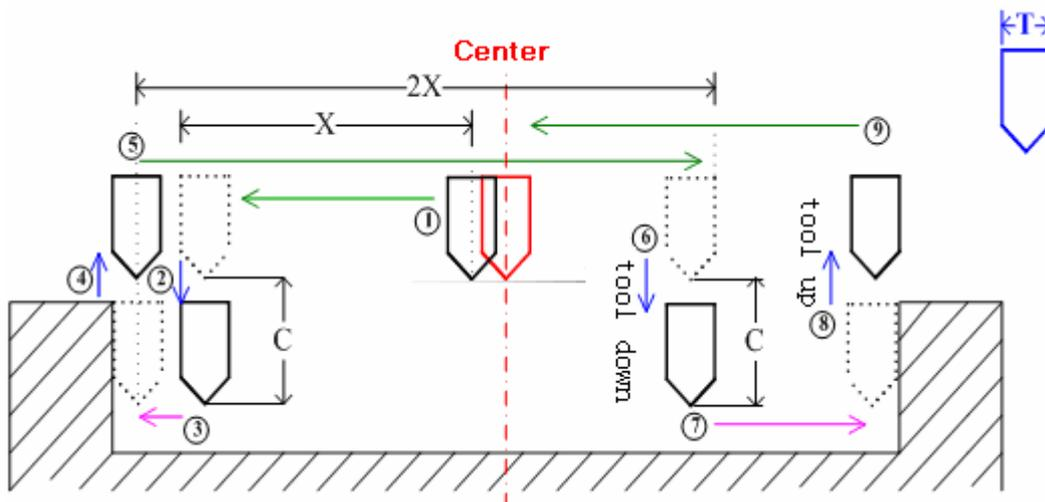

Fig. 6-6 Calibration Process of X Inner Center
- ◆ X inner center calibration is as Fig.6-6. (It's the same as inner calibration of Y center and XY